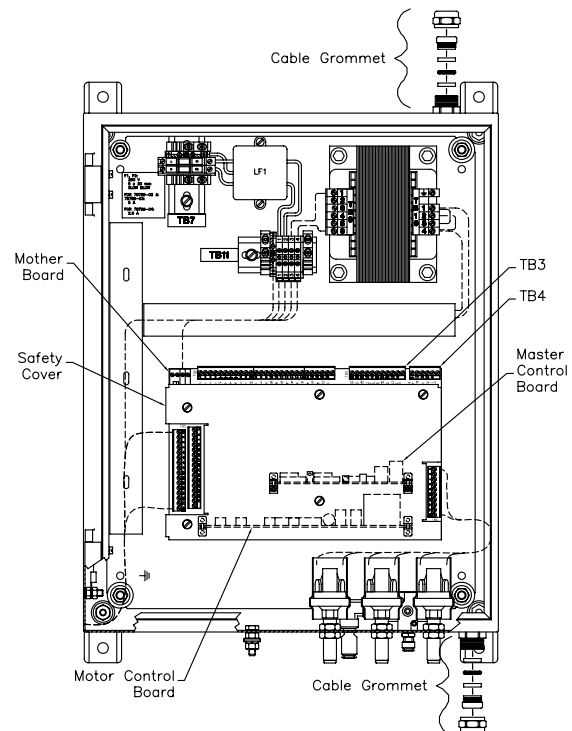

Figure 6: Inside View of Control Panel
Route the control cable from the power supply tank through the connector opening labeled HV POWER SUPPLY at the top right of the control panel and connect to TB4 (see Figure 6 for TB4 location) of the Mother Board printed circuit assembly as detailed in Table 1.
It may be necessary to remove the cable grommet to fit the control cable through the opening. If so, slide the grommet hardware onto the control cable in the order shown in Figure 6 before pulling the cable through the connector housing.
1. Remove the cable grommet hardware from the connector housing(s) labeled REMOTE I/O (DC) on the bottom of the control panel (see Figure 6). Two connectors are provided so 2 separate cables can be used if the connections opposite to the control panel are in different locations.
4. Slide the cable grommet hardware onto the cable in the order shown in Figure 6.
5. Route the cable(s) back through the connector housing(s) and connect to TB3 (see Figure 6 for TB3 location) as detailed in Table 4.
8. Ensure switches and jumpers are set as described in Table 4 for the correct input/output (0-10 VDC or 4-20 mADC). The safety cover shown in Figure 6 must be removed in order to gain access to the Motor and Master Control PC boards.